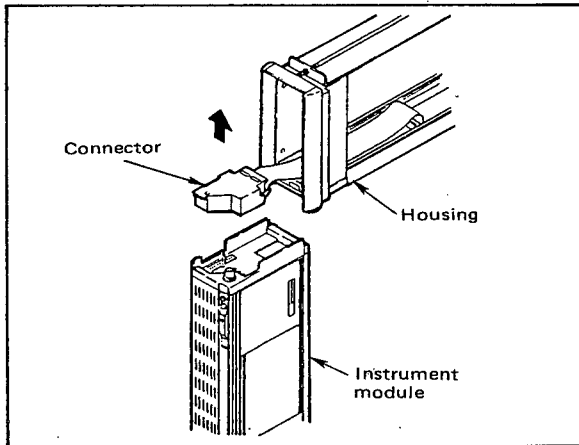

Figure 5-3-3. Detaching the Connector.
- ③ Detach the connector from the instrument module. The instrument module is now separated from the housing. (Figure 5-3-3).